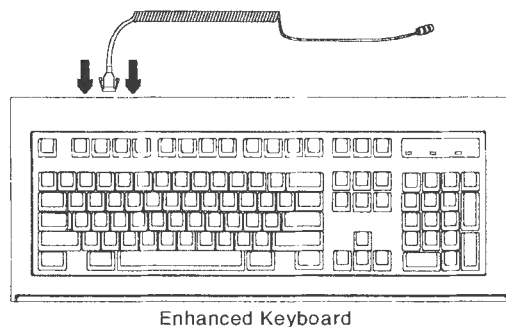

Figure 1.
2. Your new keyboard includes a cable. Plug the cable into your keyboard (See Figure 1).